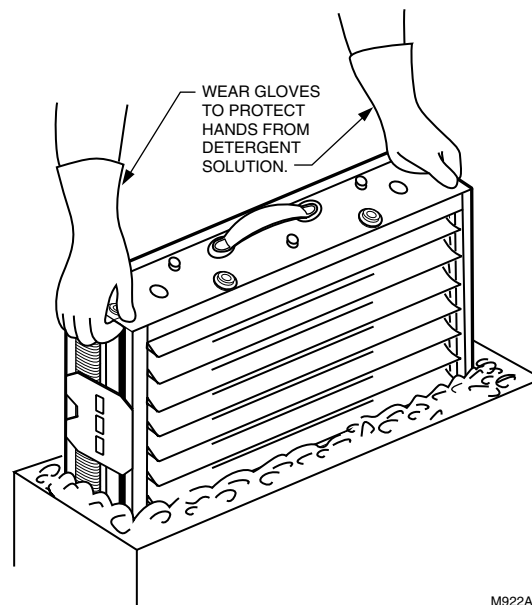

Fig. 20. Washing cells in container.
3. After the detergent has completely dissolved, place the cells in the container and let soak for 15 to 20 minutes. Agitate up and down a few times, and re-move. See Fig. 20.